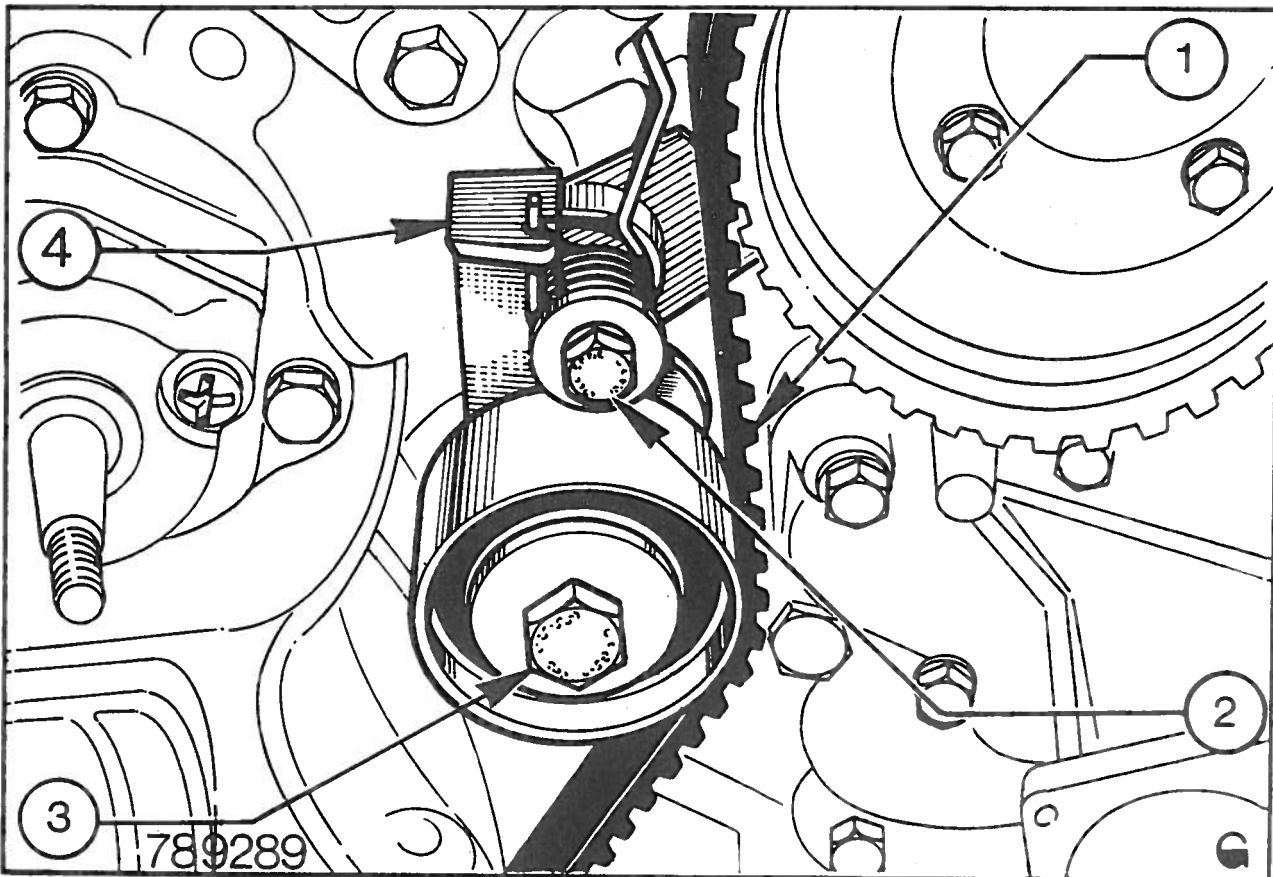

Fig. 37 The drive belt tensioner
located in the tension arm slot (Fig. 37). Fit the complete tensioner assembly to the front housing ensuring that the spring hook is located in the housing recess, then screw the pivot/mounting bolt into the housing but do not tighten. Fit the idler locking bolt and nut but do not tighten.
28. Feed the timing belt over the crankshaft, camshaft and injection pump gears, ensuring that it passes to the right of the idler pulley (Fig. 37).